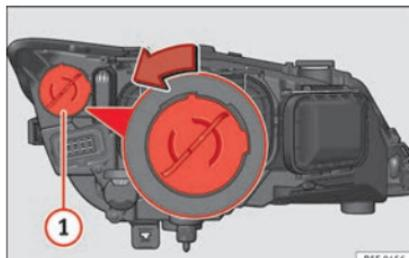

Fig. 207 Day light bulb.
- Turn the bulb holder » Fig. 207 ① to the left and pull.